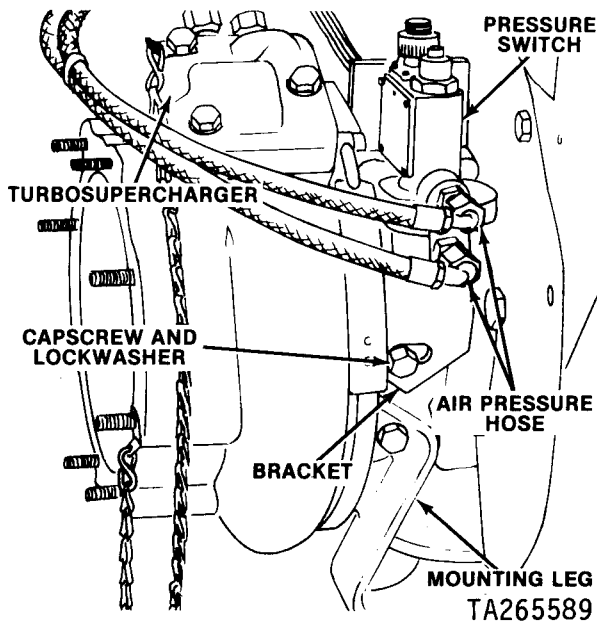

Figure 4-9. Removing or Installing Right Bank Dust Detector Pressure Switch
(5) Disconnect and remove two air pressure hoses (fig. 4-9) from the right bank pressure switch and turbosupercharger. Remove capscrew and lockwasher and remove pressure switch and bracket, as an assembly.
(2) Install assembled pressure switch (fig. 4-9) and bracket on turbosupercharger mounting leg and secure with capscrew and lockwasher. Connect two air pressure hoses to pressure switch and turbosupercharger.